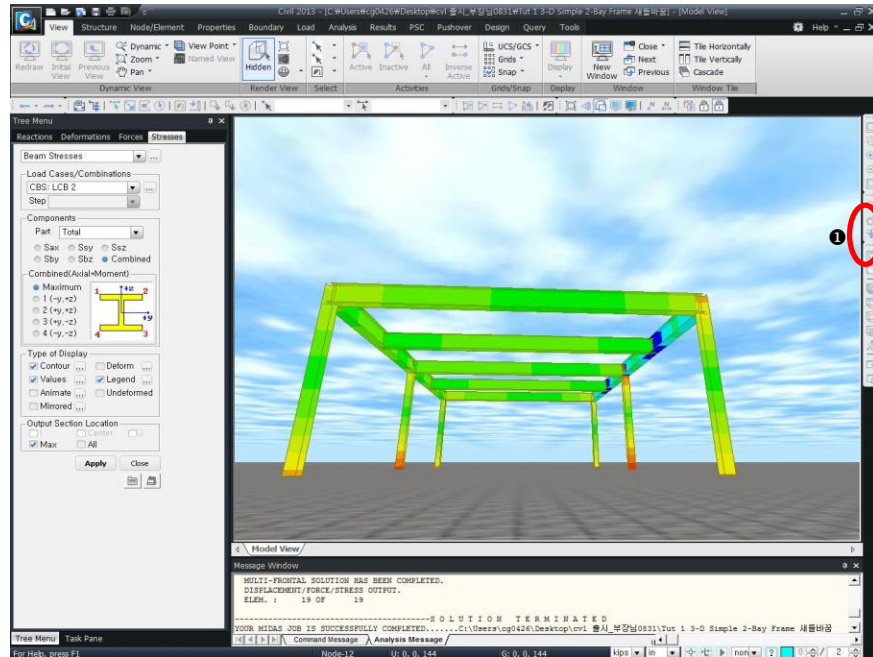

Figure 1.36 Render View
Use **Dynamic View Toolbar** (Fig. 1.36–①), located vertically on the right of the Model Window, as directed below.
For easier assessment of the deformation trend due to LCB 2 (Load Combination 2), rotate the model as shown in Fig.1.36 by using  **Rotate Dynamic**.